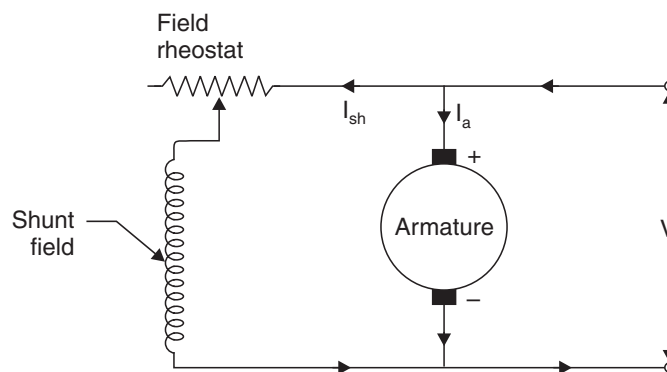

Fig. 79. Field rheostatic control for a D.C. shunt motor.
- The flux of a D.C. shunt motor can be changed by changing shunt field current (I_{sh}) with the help of a shunt field rheostat as shown in Fig. 79. Since the field current is very small, the power wasted in the controlling resistance is very small.